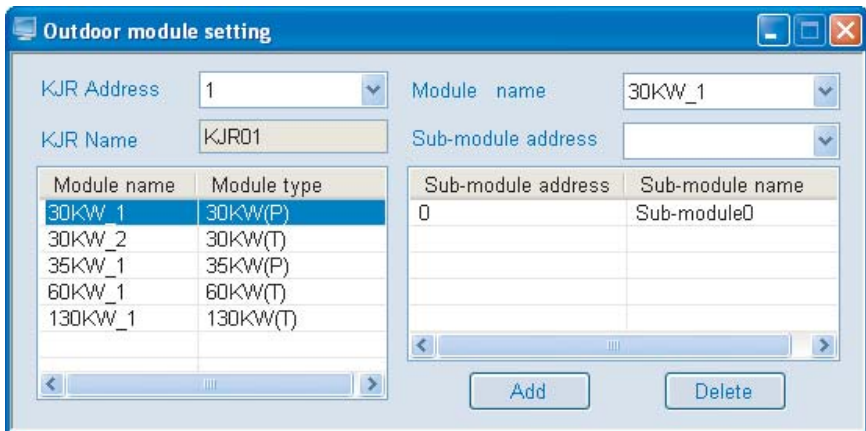

Fig.4-32
③Click “Outdoor module setting”, the pop-up window as Fig.4-32——Add outdoor module under connect with the corresponding wire controller.